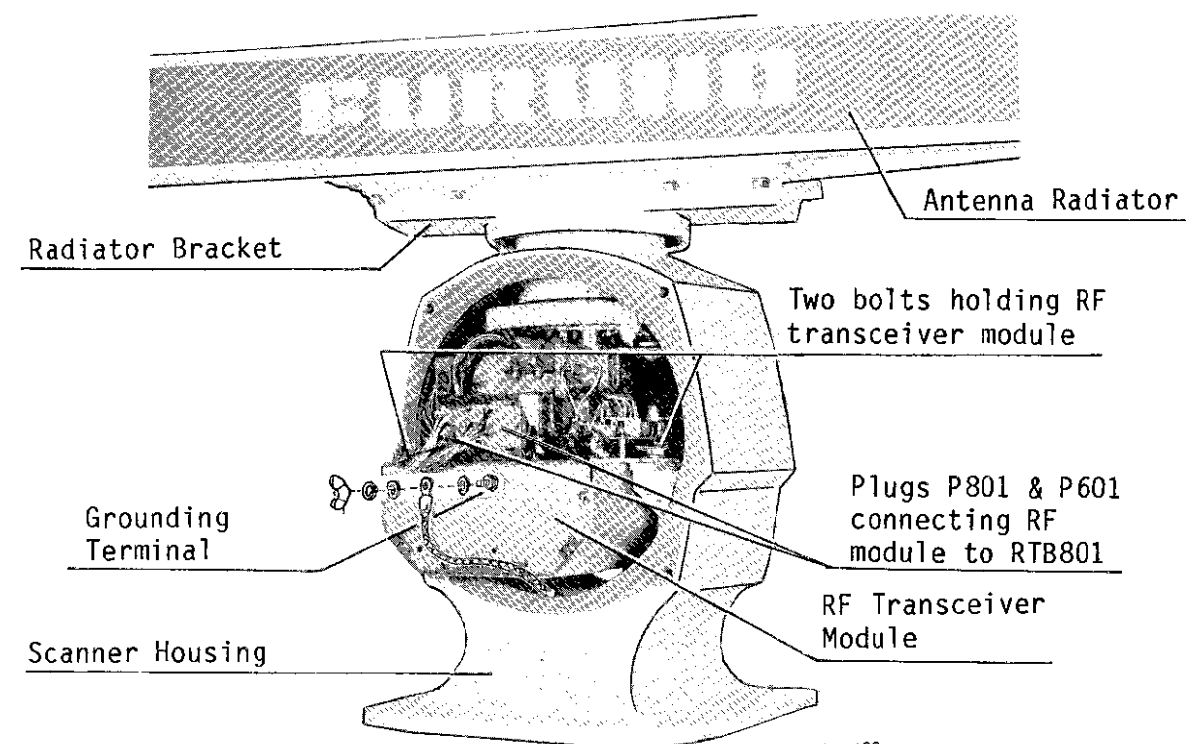

Fig.1-6
- 2) Open the scanner housing covers by removing the four bolts. Remove the RF transceiver module by unscrewing the two bolts shown in Fig.1-6 and disconnecting two plugs, P801 and P601.
Note: The inner shield of the multicore cable should be connected to the grounding terminal on the RF transceiver module. See Fig.1-6.